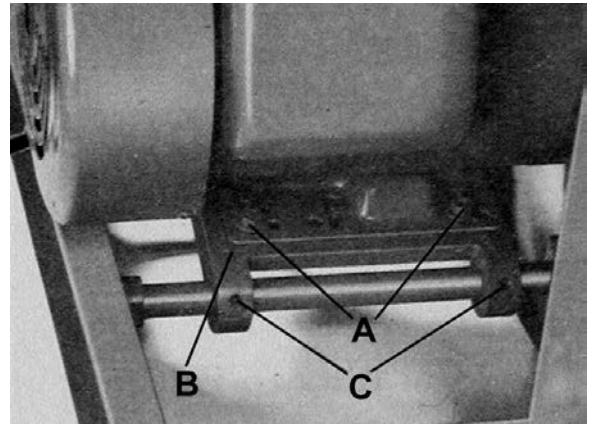
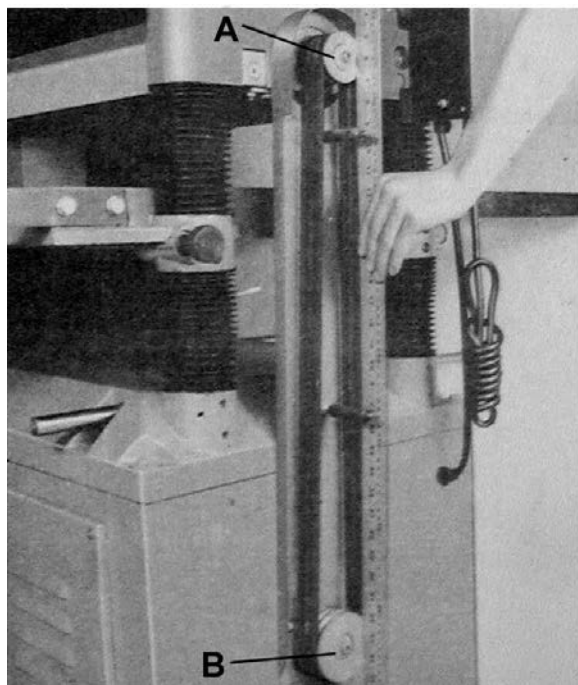
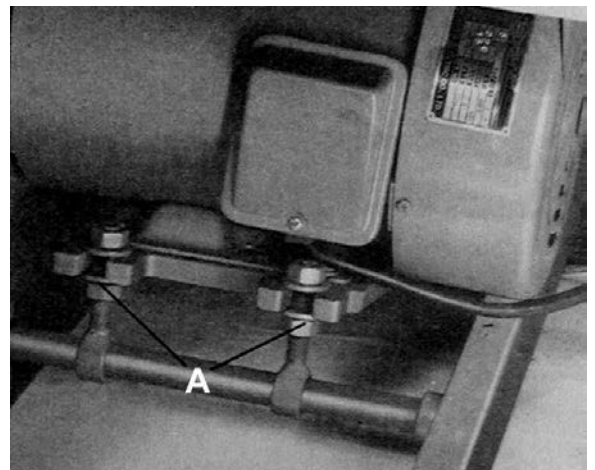

FIGURE 5
FIGURE 7
FIGURE 8
1. Assemble the motor to the motor mounting plate, as shown in Fig.5.
NOTE : It is very important that the motor be mounted to motor plate by using the mounting hardware (A) Fig.5.
3. Using a straight edge, align the motor and cutterhead pulleys as shown in Fig.7, the motor plate (B) Fig.5 can be moved for alignment by loosening the set screws (C) in the motor plate (B) as shown in Fig.5.
4. Assemble the belts to the two pulleys, as shown in Fig.7. and adjust for the proper belt tension by raising or lowering the motor plate, as shown in Fig.8, then tighten the nuts (A) Fig.8. Correct tension is obtained when there is approx. 1/4" deflection of the center span of the pulleys by using light finger pressure.